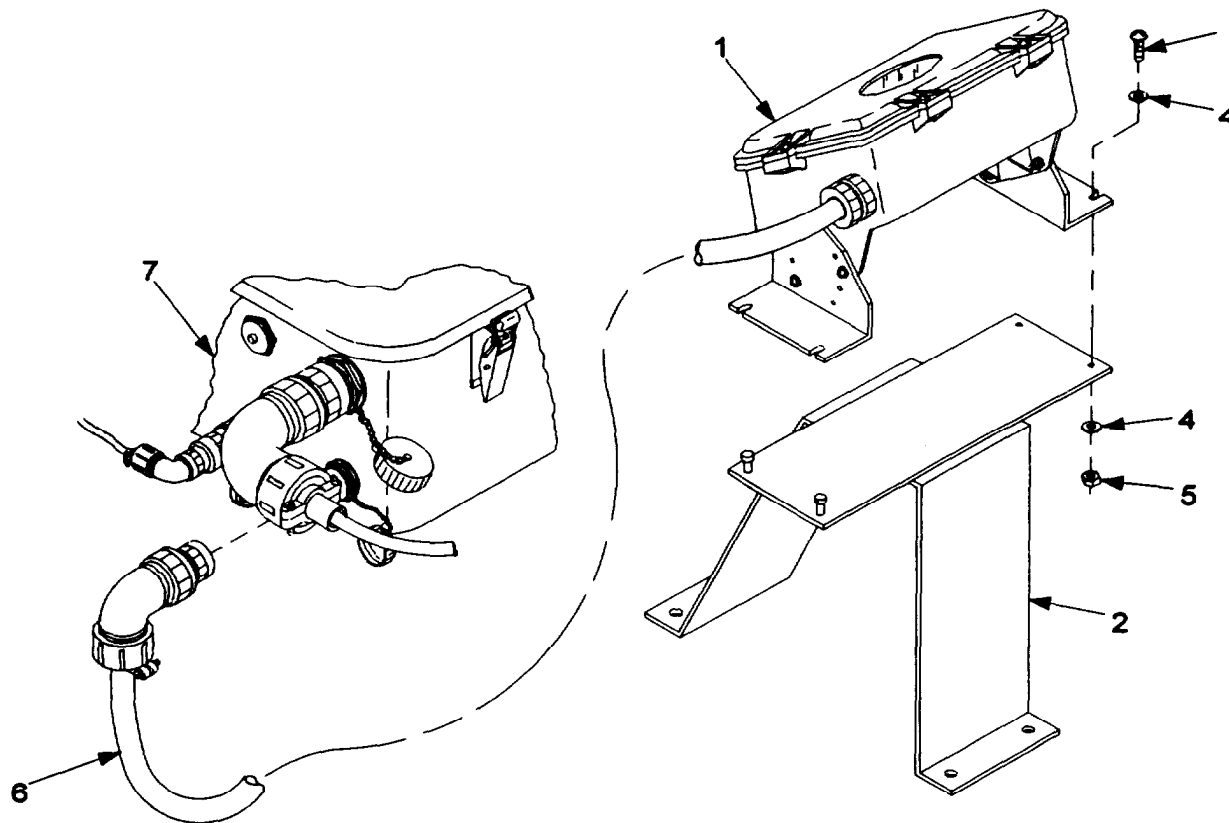

Figure 2-7. Installation of MFS on IMTC.
(33) Refer to figure 2-7. Position MFS (1) on MFS support assembly (2).